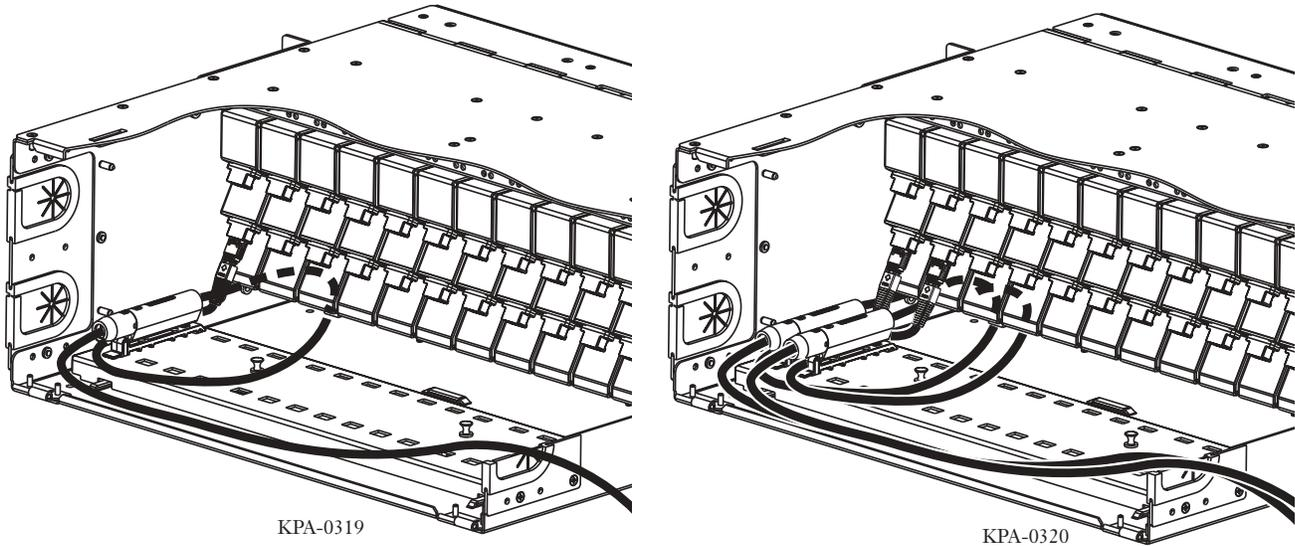

Figure 5 — Route Pigtail Slack and Mate Connector in Adapter
- Step 5** If installing the plug in the base of the housing (Figure 5), route the MTP® pigtail under the modules, making a slack loop to the side of the plug. Do NOT violate the minimum bend radius for the cable type. Insert the connector into the adapter in the first module, using the lower adapter of a 24-fiber module for the plugs in the base of the housing.